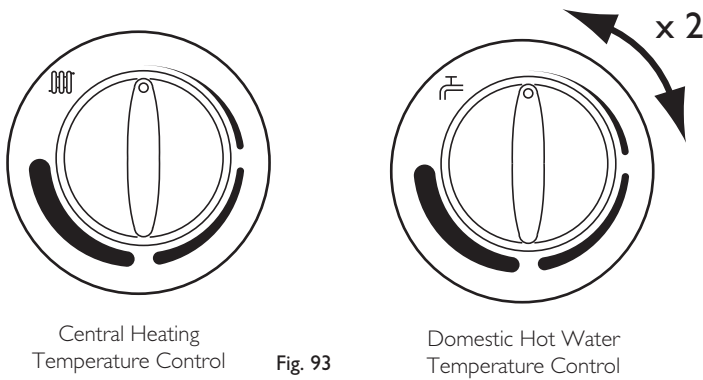

Fig. 93
3. Turn both control knobs fully anticlockwise, then quickly turn the right hand knob $\frac{1}{4}$ clockwise twice and back fully anticlockwise (Fig. 93).